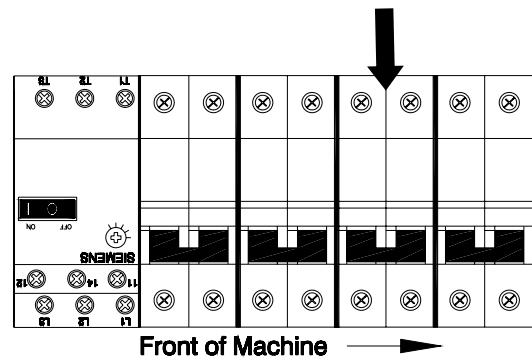

Figure 23. Hose Heat Circuit Breaker
- HOSE HEAT CIRCUIT BREAKER-** Switch OFF and lock out incoming power at the source. Open the console and locate the hose heat circuit breaker. Reset the breaker if necessary. (See Figure 23).